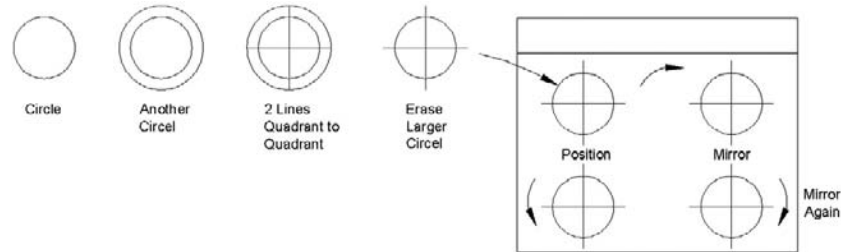

FIGURE 4.18
- All kitchen furniture on the left side of the kitchen is formed using basic rectangles, drawn to no particular size. At the top left there is a refrigerator with a microwave on top. Next to it is a countertop and a sink. Next to that is the range top with four burners. Figure 4.18 is a suggested procedure for creating the range top.